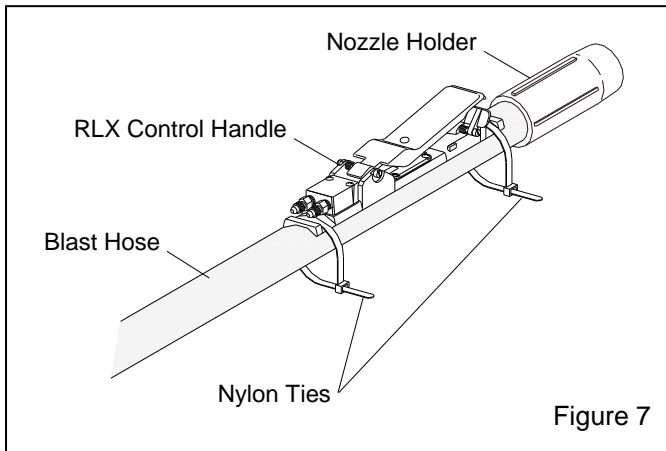

Figure 7
2.5.2 Band the control handle to the blast hose close to the nozzle holder, as shown in Figure 7, using the two nylon ties provided. Once the control is firmly attached, clip the tie ends to avoid snags or interference with the operation of the control handle.